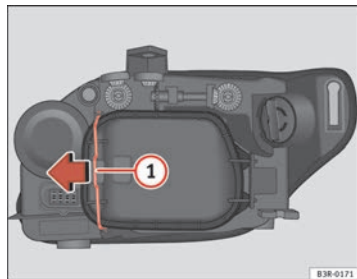

Fig. 212 Side light bulb (outside of vehicle)
- Move the brace ⇒ **fig. 212 ①** in the direction of the arrow and remove the rigid cover, separating the brace side and then removing the two tabs from the other end of the cover.